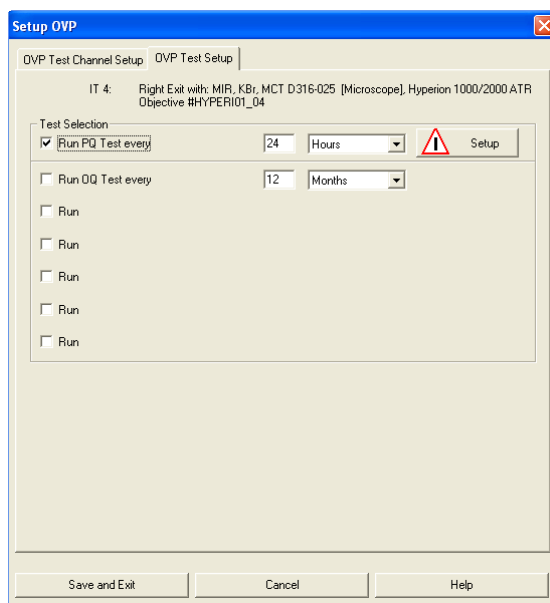

Figure 53: Specifying the Validity Period for the PQ Test
- Activate the *Run PQ Test every* check box and specify the validity period for the PQ test (i.e. when the specified validity period is over the PQ test needs to be repeated). See figure 53.